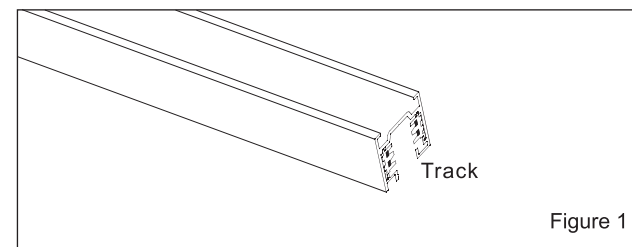

Figure 1
1. This product is compatible with Maya brand tracks (Figure 1) or other brands of compatible tracks. The specified track parameters are: input voltage: AC220~240V, maximum load current 16A.